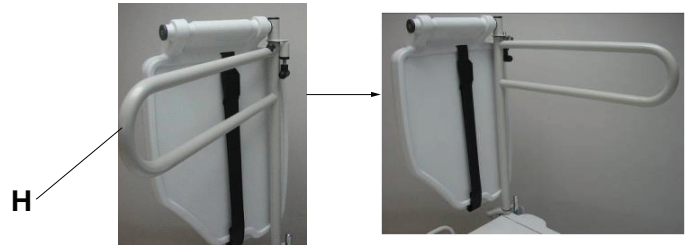

Figure 114 – Swinging out the tray support pole
2. Swing the tray support pole out 90° (H) (Figure 114).